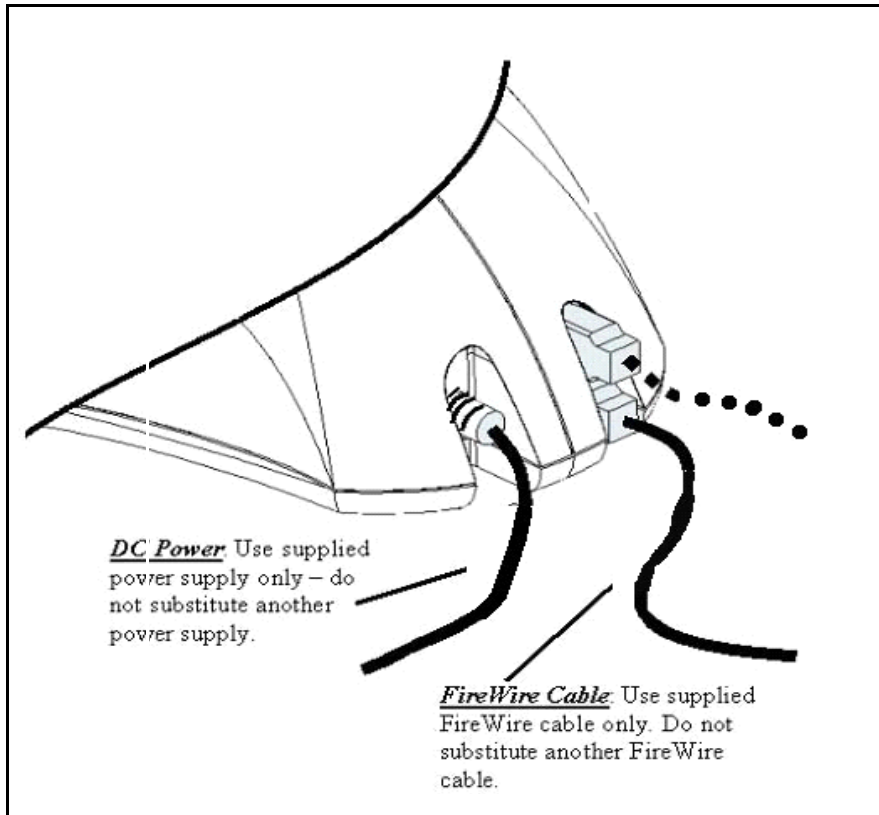
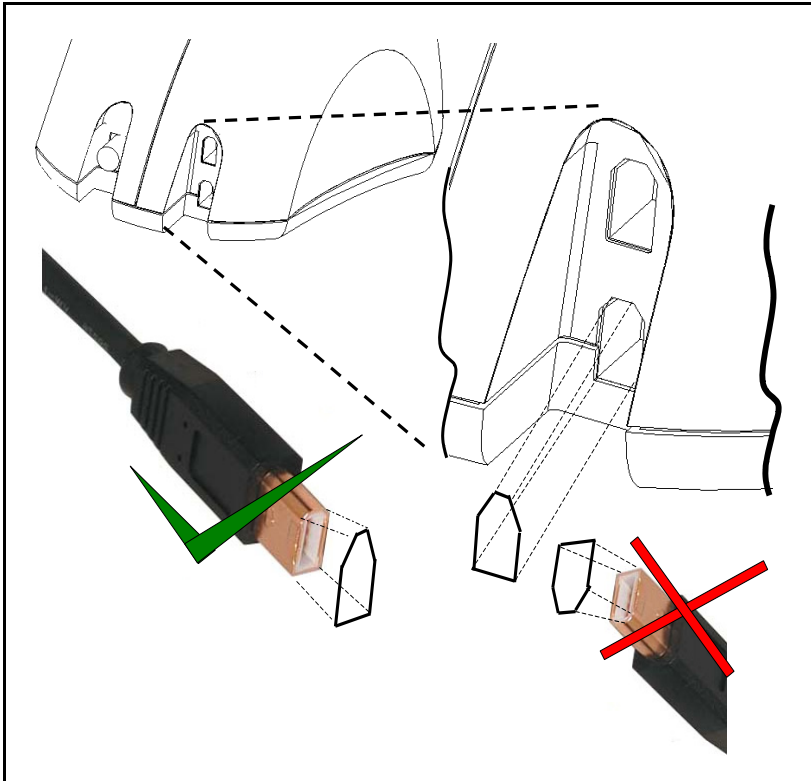

FIGURE 2-6. Back of the PHANTOM Omni device.
FIGURE 2-7. Insert the FireWire cable plug correctly into the PHANTOM Omni device.
- a Insert the round pin from the SensAble-supplied power supply into the back of the PHANTOM Omni device, as shown in Figure 2-6.
- a Connect the supplied FireWire cable into either of the two 6-pin FireWire ports on the back of the PHANTOM Omni device, as shown in Figure 2-6 and Figure 2-7.
Warning Make sure the connector is facing in the correct direction, as shown on the left in Figure 2-7.